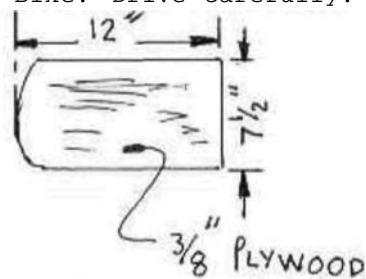

FIGURE 18
15. Cut a piece of 3/8" plywood as shown in Figure 18. Cut a piece of 2" or 3" foam the same size as the plywood. Cover with water resistant fabric, using tacks to fasten the fabric to the plywood. Drill two holes in the seat plate on the frame, and using wood screws, screw the seat to the frame. You are now ready to ride your Mini Bike. Drive carefully.